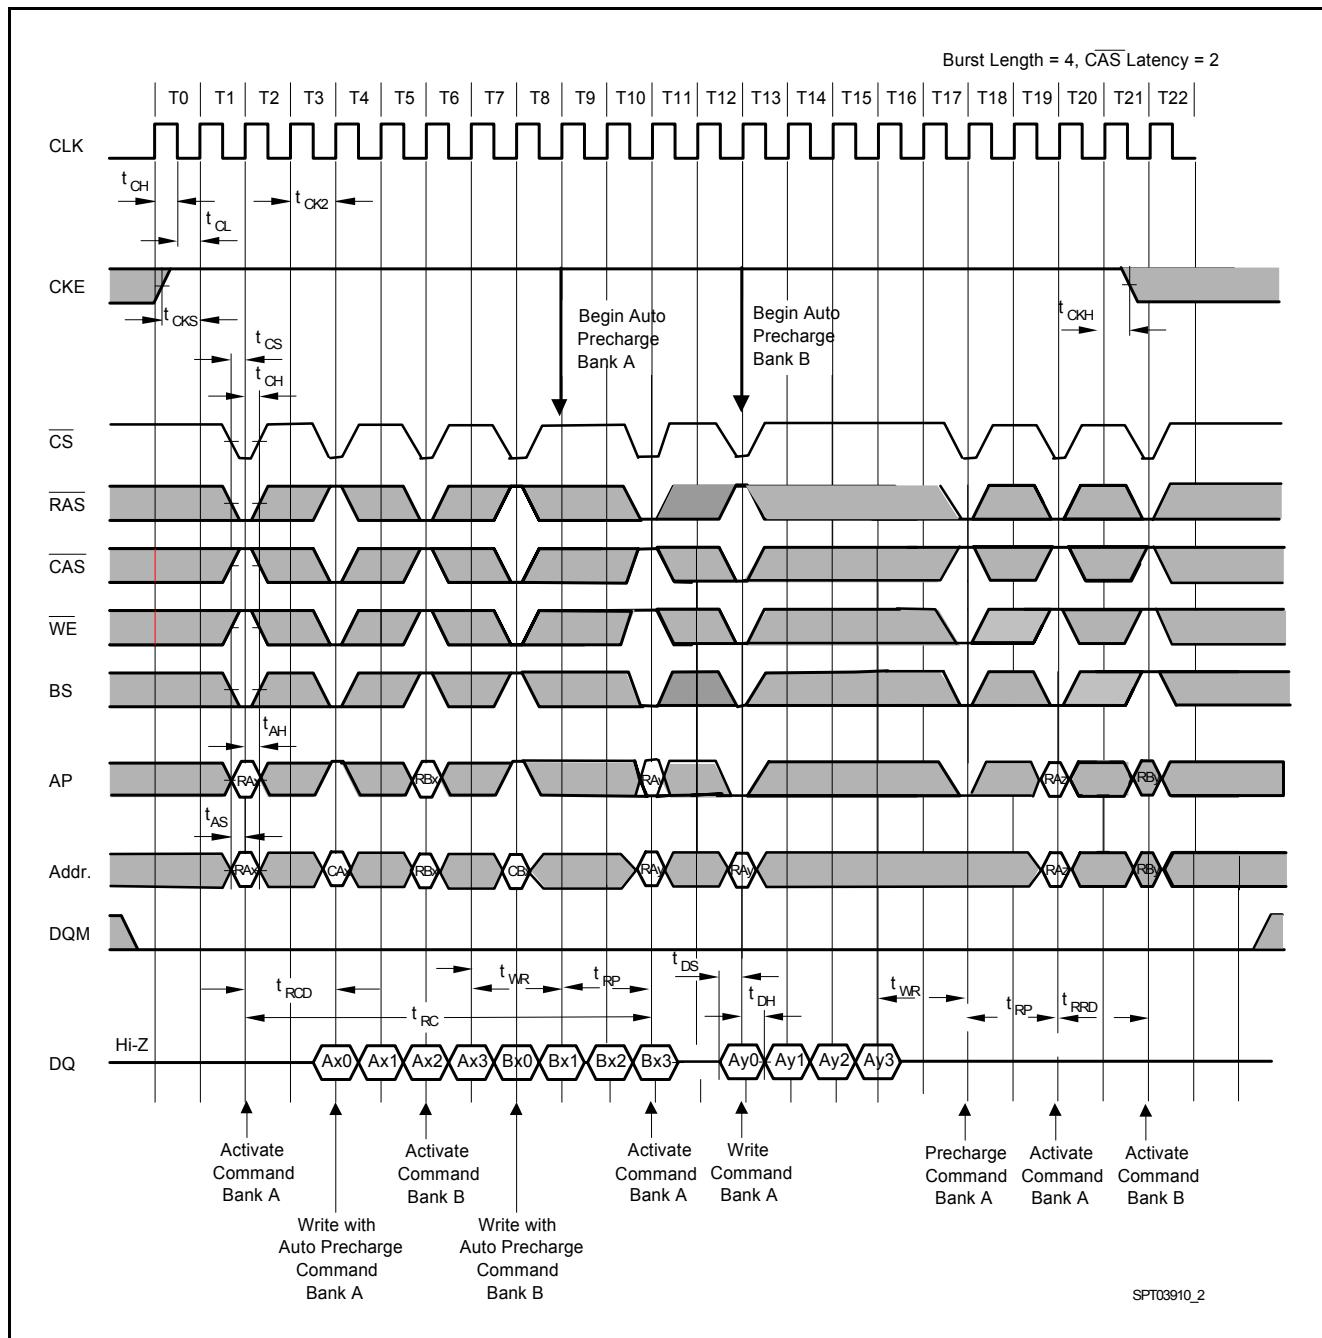

Figure 16 AC Parameters for a Write Timing
- Figure 16 AC Parameters for a Write Timing